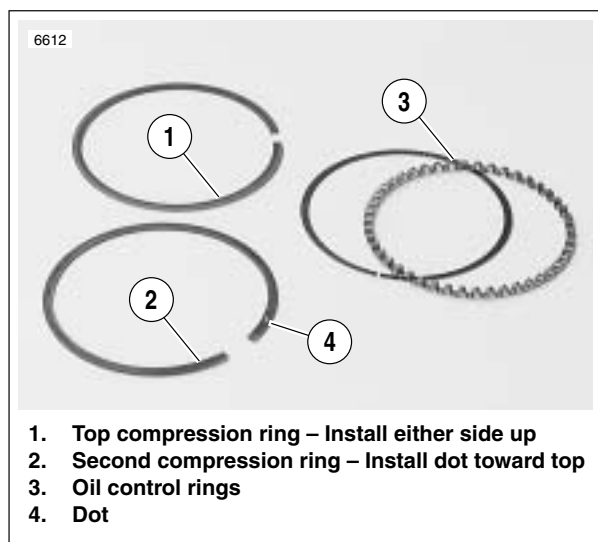

Figure 3-91. Piston Rings
See Figure 3-91. Piston rings are of two types: compression (1, 2) and oil control (3). The two compression rings are positioned in the two upper piston ring grooves. The dot (4) on the second compression ring must face upward.